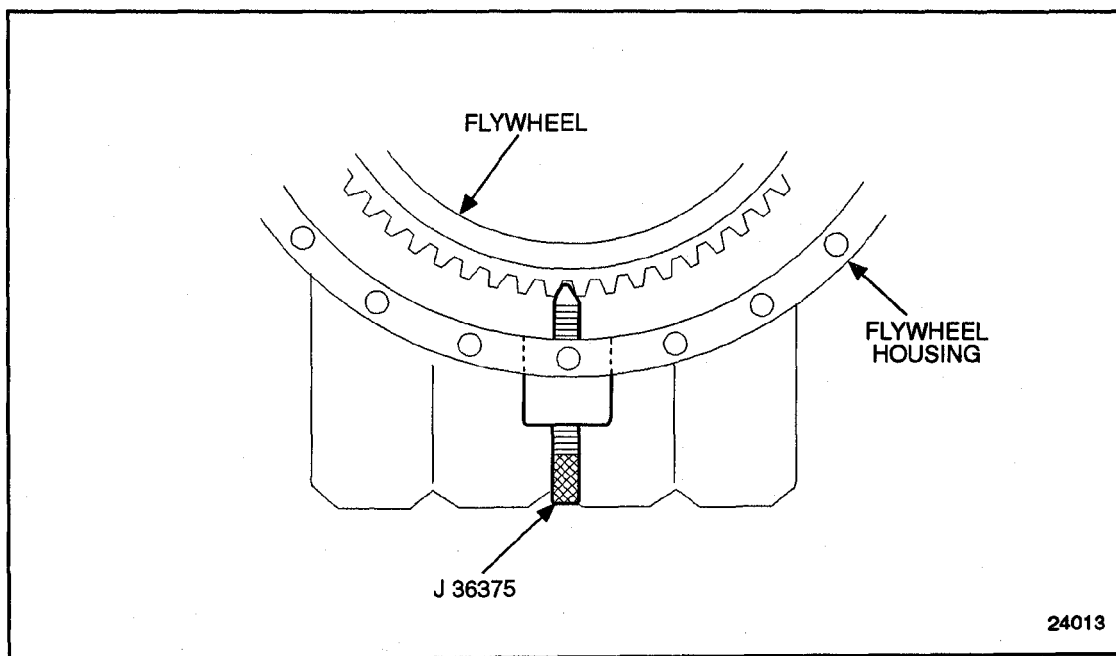

Figure 1-205 Flywheel Lock
2. Remove the inspection plug in the bottom of the flywheel housing and install the flywheel lock, J 36375-A. See Figure 1-205.
1. Install the flywheel lock, J 36375-A, to the inspection plug hole in the bottom of the flywheel housing. See Figure 1-205.
3. Install the flywheel lock, J 36375-A. See Figure 1-205.